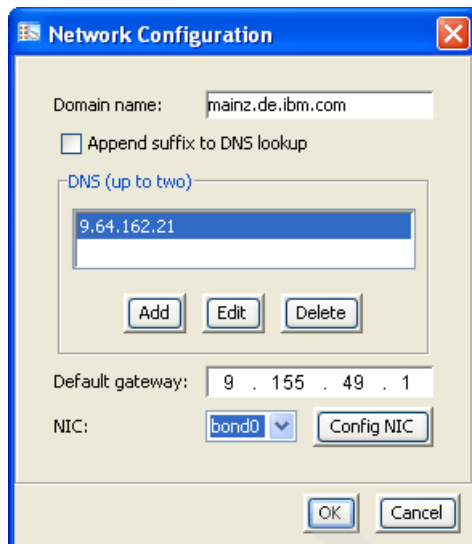

Figure 12-11 Network Configuration window
2. You can find the new bond0 (or 1, and so on. The number of bonds that you see depends on the number of bonds that you have previously configured.) tab in Figure 12-11. After verifying your bond number, click **Config NIC**.